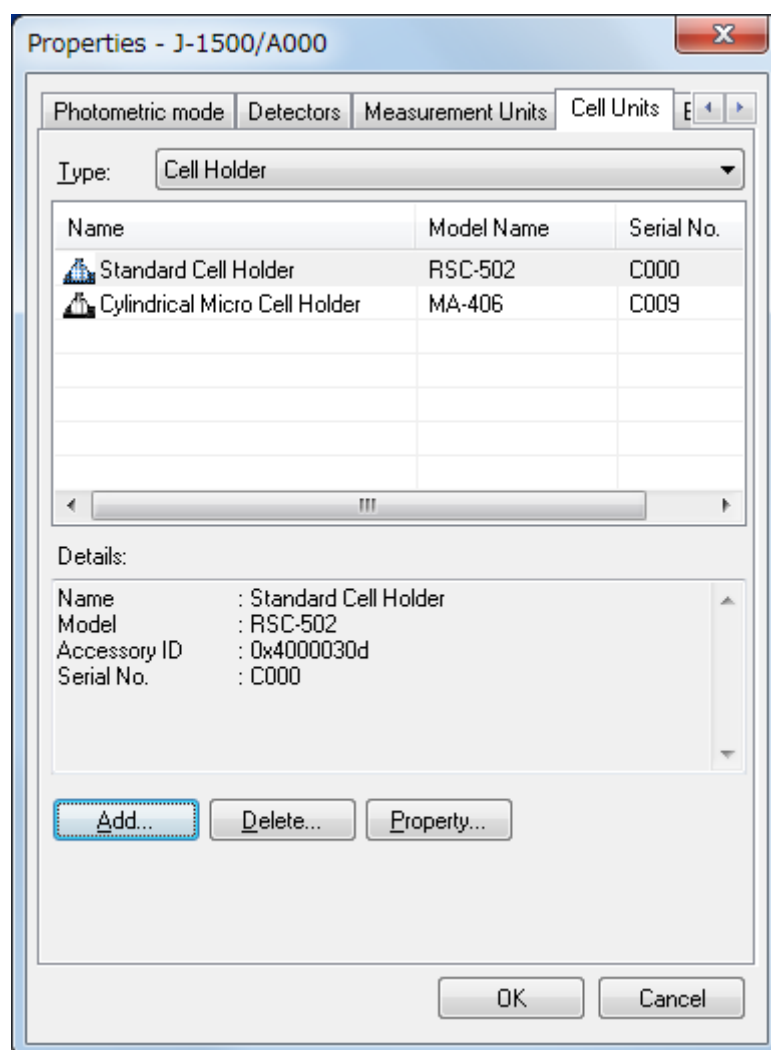

Figure 3.15 [Cell Units] tab in [Properties] dialog box
- (3) [Name] is automatically entered by selecting the accessory in the [Accessory ID] drop-down list. Type the serial number and a comment as required, and then click the <OK> button to register the accessory and display it in the list of registered accessories (see Fig. 3.15).